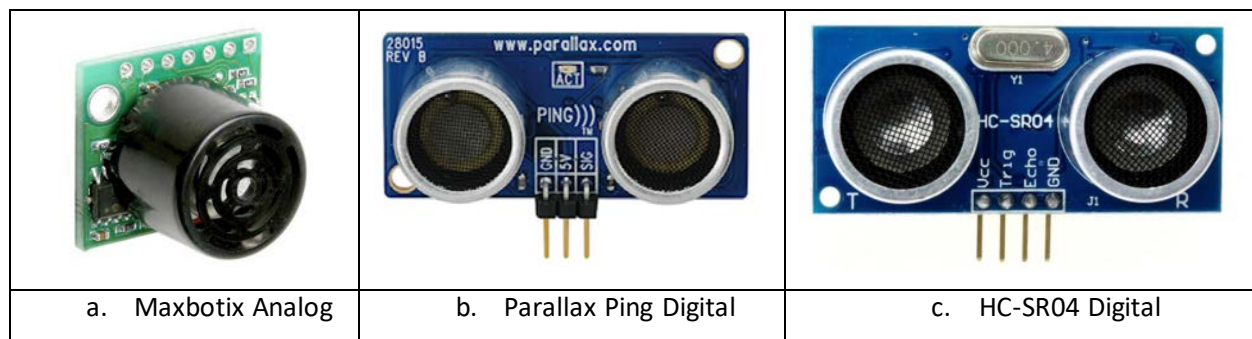

Figure 3: Sonar Sensor Types
- Attach at least one digital sonar sensor to your robot and connect the white signal line to one of the analog pins on the microcontroller (A0-A15). *Note that you can use the analog pins whether you have a digital or analog sonar sensor.* **Connect the black wire to the ground buss (blue line) on the breadboard. Connect the red wire to the 5V buss (red line closest to power switch) on the breadboard. BE CAREFUL! If you connect the sensor to the wrong power buss you could damage it!** Figure 3 shows the pinout for the various sonar sensors. For now, use masking tape to attach the sensor, after you are sure where you want to mount it, go see the ECE technicians to permanently mount it if you don't have a screwdriver, screws, or the required holes in the chassis. If you have a sensor with 4 pins, simply tie the trigger and echo pins together. You may want to put the sonar to point over the front corners of the robot to cover the blind spots.